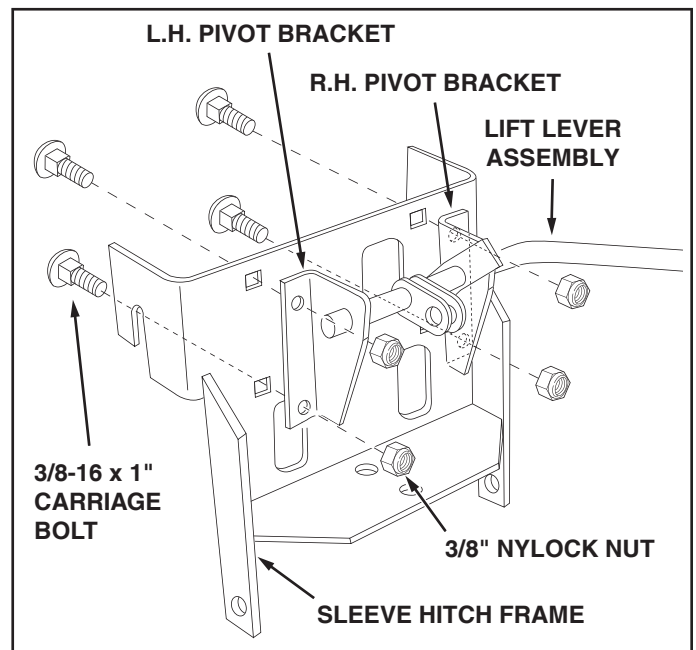

FIGURE 3
5. Place the L.H. Pivot Bracket onto the end of the Lift Lever Assembly (the R.H. Pivot Bracket comes already installed on the assembly). See figure 3.
6. Attach the R.H. and L.H. Pivot Brackets to the Sleeve Hitch Frame Assembly using four 3/8" x 1" carriage bolts and 3/8" nylock nuts. See figure 3.